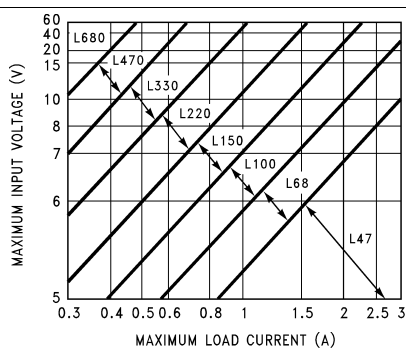
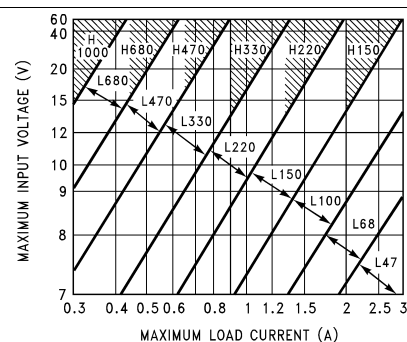
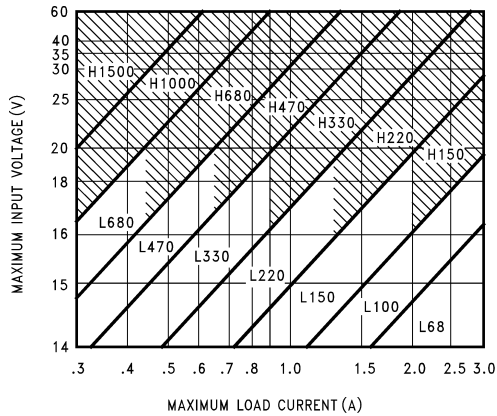
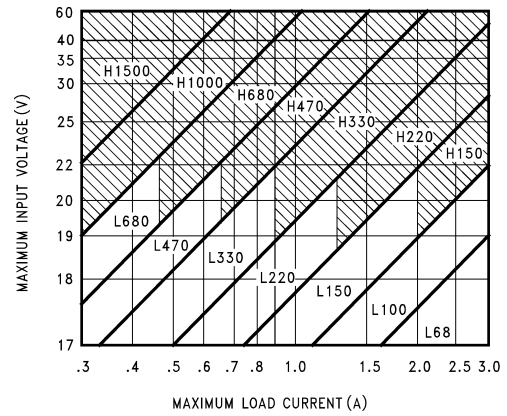

Figure 27. LM2576(HV)-3.3
Figure 28. LM2576(HV)-5.0
Figure 29. LM2576(HV)-12
Figure 30. LM2576(HV)-15
The inductor value selection guides in Figure 27 through Figure 31 are designed for buck regulator designs of the continuous inductor current type. When using inductor values shown in the inductor selection guide, the peak-to-peak inductor ripple current is approximately 20% to 30% of the maximum DC current. With relatively heavy load currents, the circuit operates in the continuous mode (inductor current always flowing), but under light load conditions, the circuit is forced to the discontinuous mode (inductor current falls to zero for a period of time). This discontinuous mode of operation is perfectly acceptable. For light loads (less than approximately 300 mA), it may be desirable to operate the regulator in the discontinuous mode, primarily because of the lower inductor values required for the discontinuous mode.
1. Select the correct Inductor value selection guide from Figure 27, Figure 28, Figure 29, or Figure 30. (Output voltages of 3.3 V, 5 V, 12 V or 15 V respectively). For other output voltages, see the design procedure for the
adjustable version. Use the selection guide shown in Figure 28.
- Identify the inductor value from the inductor code, and select an appropriate inductor from the table shown in Figure 27. Part numbers are listed for three inductor manufacturers. The inductor chosen must be rated for operation at the LM2576 switching frequency (52 kHz) and for a current rating of $1.15 \times I_{LOAD}$. For additional inductor information, see Inductor Selection. Inductor value required is 100 μ H from the table in Figure 27. Choose AIE 415-0930, Pulse Engineering PE92108, or Renco RL2444.